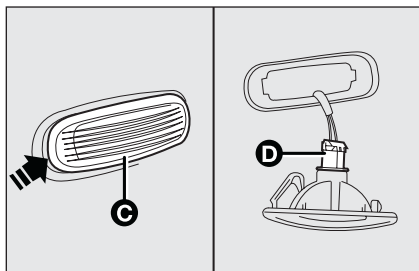

fig. 24
- lever in the point shown by the arrow in order to compress the fastening spring and extract the unit **C**-fig. 24;